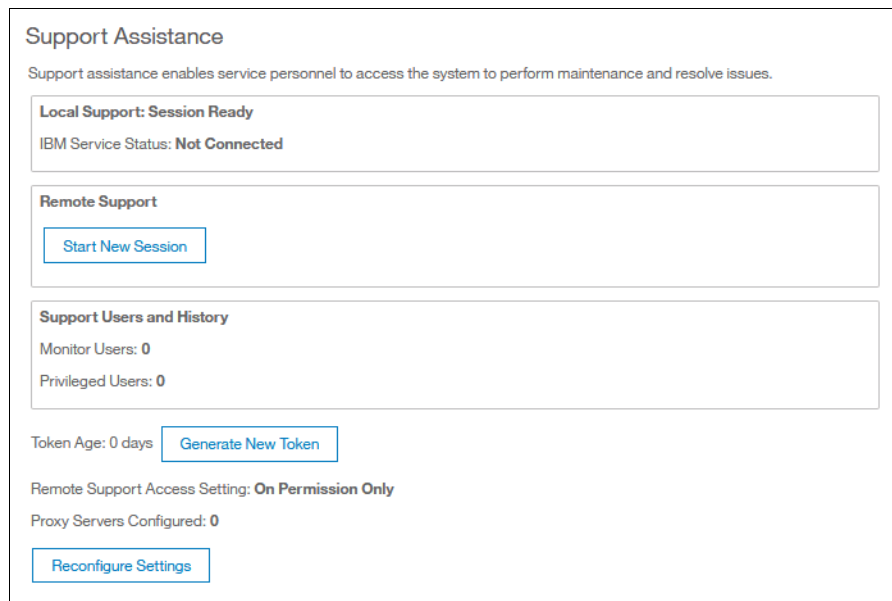

Figure 7-71 Remote Support Status and session management
8. After completing the remote support setup, you can view the status of any remote connection, start a new session, and reconfigure the setup, as seen in Figure 7-71. Click **Start New Session** to open a tunnel connection to IBM.